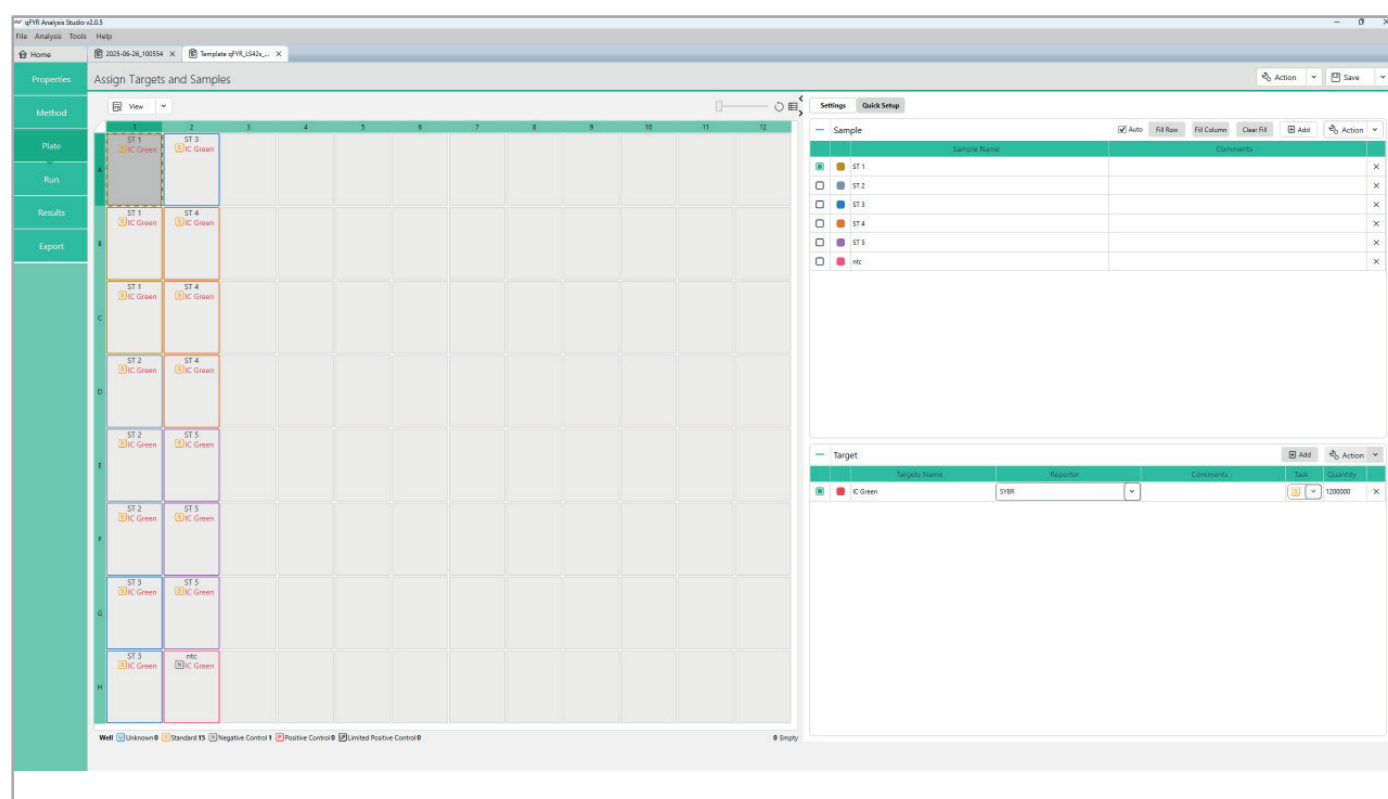

Figure 1: Demo Kit Standard Curve experiment pipetting scheme and plate setup in the qFIR software.
- Configure the plate setup in the software according to your pipetting scheme. Figure 1 shows a possible pipetting scheme
Figure 1: Amplification curves for the 5 DNA standards included in the FastGene® 2x IC Green Blue Mix Demo Kit, demonstrating consistent performance across a wide dynamic range. The clear separation between standard concentrations highlights the assay's sensitivity and reproducibility.
Figure 1: Standard curve generated from the demo kit showing excellent linearity ($R^2 = 0.9996$) and high efficiency (100.65%). This confirms the robustness and accuracy of the FastGene® qFYR System when using the demonstration kit.